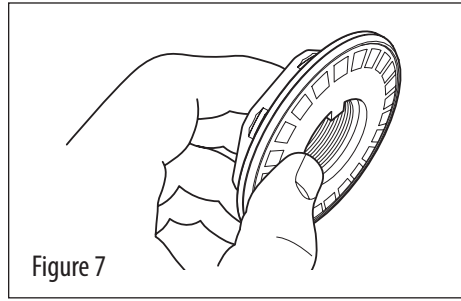

Figure 7
1. Seat the flat washer into the back of the spindle nut (see Figure 7).